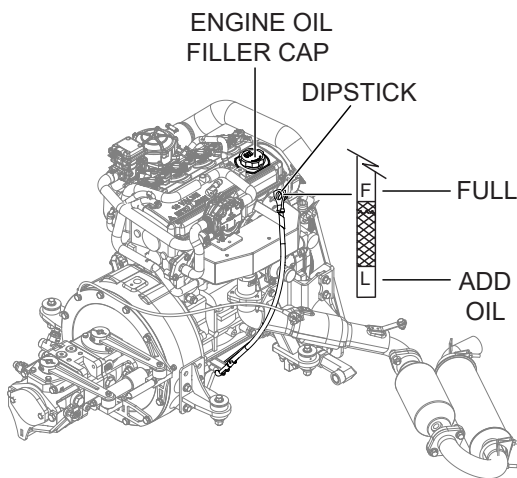

Figure 11. Engine Oil Check and Fill
2. Pull the engine oil dipstick from its holder (Figure 11).